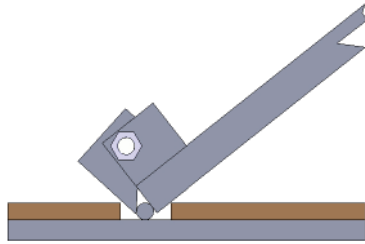

Fig. 14
3. To raise and lock the lift: Press the button up till the lift is raised to the required height and the locks are in engaged (**See Fig. 14**), then push release handle of the power unit, the lift would be locked.
(See Fig. 14)